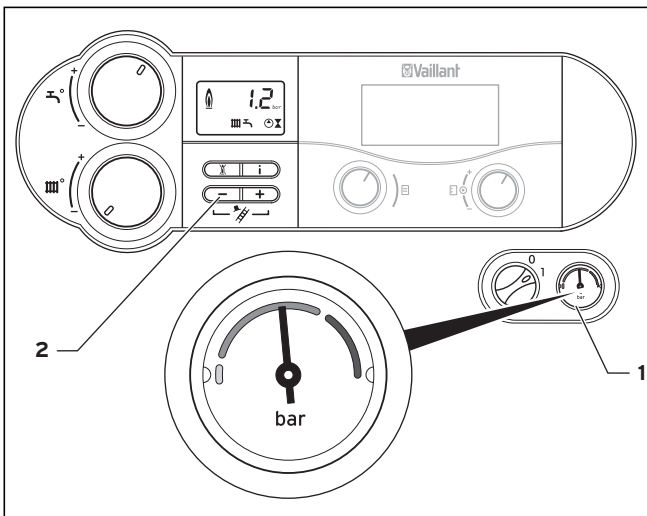

Fig. 4.4 Check the filling pressure of the heating system
- Check the filling pressure of the system using the pressure gauge (1) before putting it into operation. For the heating installation to operate correctly the indicator for the pressure gauge (1) must be in the upper half of the dark grey area when the system is cold (see Fig. 4.4). This corresponds to a filling pressure between 1.0 and 2.0 bar. If the indicator is in the area with the light grey background, the system must be topped up with water before starting up (see Chapter 4.7.4).